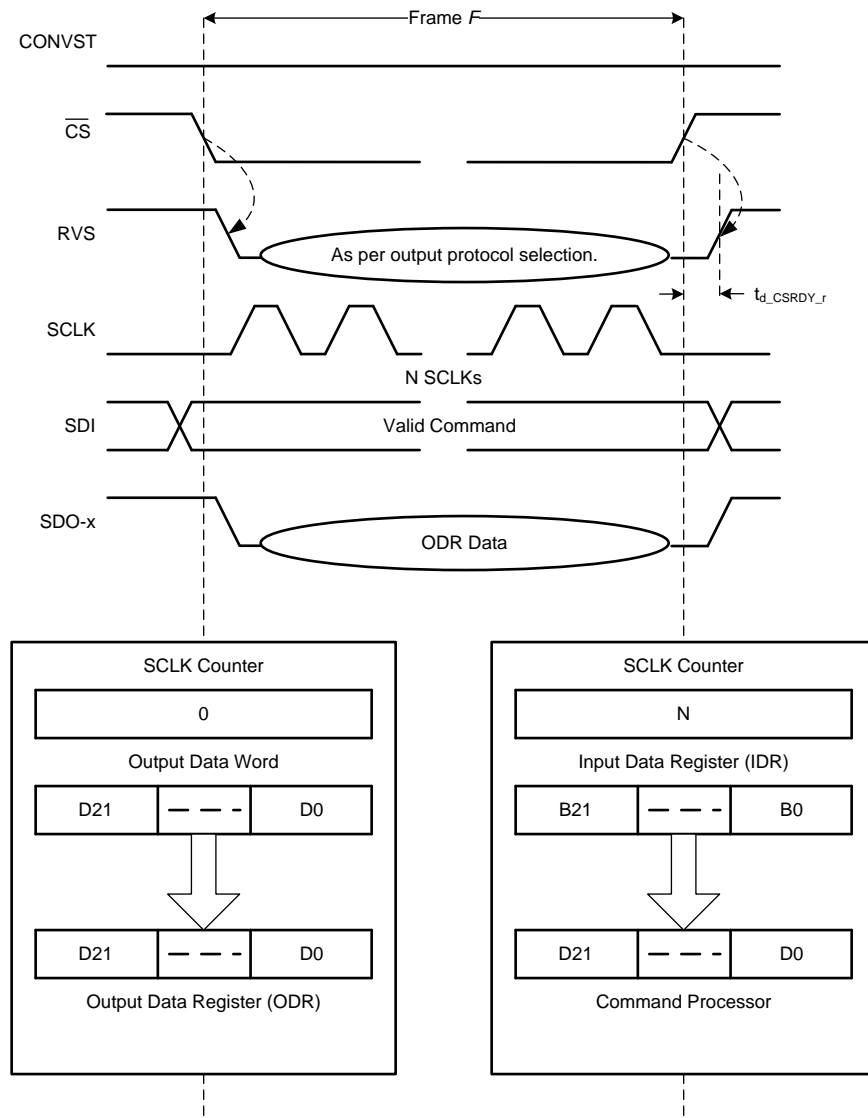

Figure 43. Data Transfer Frame
A data transfer frame between the device and the host controller is bounded between a  $\overline{\text{CS}}$  falling edge and the subsequent  $\overline{\text{CS}}$  rising edge. The host controller can initiate a data transfer frame (as shown in Figure 43) at any time irrespective of the status of the CONVST signal; however, the data read during such a data transfer frame is a function of relative timing between the CONVST and  $\overline{\text{CS}}$  signals.
- The device takes control of the data bus. As shown in Figure 43, the 22-bit contents of the output data word (see Figure 41) are loaded in to the 22-bit output data register (ODR; see Figure 37).
- As illustrated in Figure 43, the 22-bit contents of the IDR are transferred to the command processor (see Figure 37) for decoding and further action.